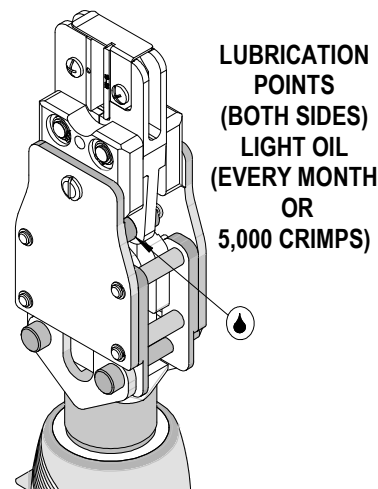

Figure 2-16
9. Make certain all pins, pivot points and bearing surfaces in the tool head are protected with a thin coat of high quality machine oil. Do not oil excessively. Use light oil, such as SAE 30 weight automotive oil, every 5,000 crimps or monthly, will significantly enhance the tool life and ensure a stable calibration. See Figure 2-16 for lubrication points.